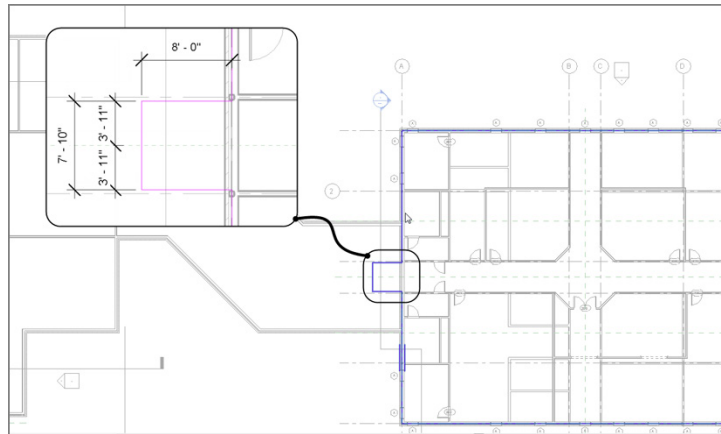

FIGURE 10.34: Creating a landing. You'll add a door in a moment.
2. Zoom in on the area between the corridor and the east wing, as shown in Figure 10.34.
5. Sketch a landing that is 8'-0" (2400mm) long × 7'-10" (2350mm) wide (see Figure 10.34). Center it on the reference plane.